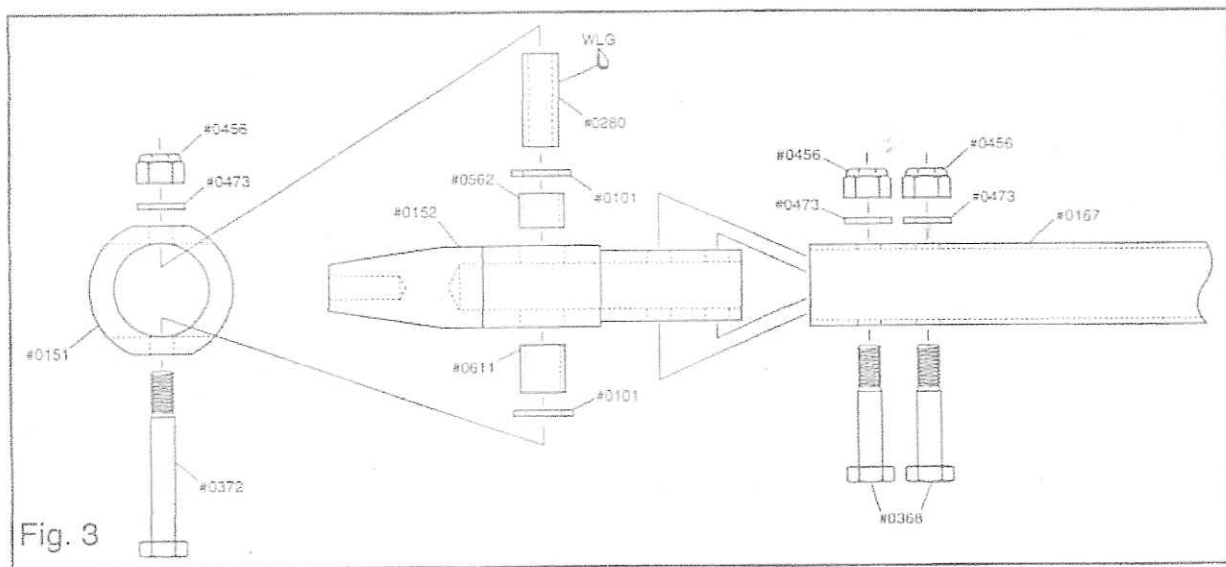

Fig. 3
2. Remove the (2) bushings #0566 shown in section 5 fig. 29 of your assembly manual and replace with bushings #0562 and #0611 as shown above in fig. 3.